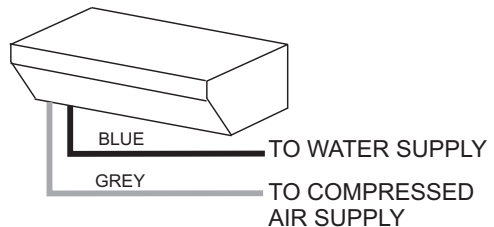

Figure 2 - Water & Air Connections
3. Locate the 1/4" grey air supply line and the blue water supply line exiting from beneath the ADU-07 console. Connect the grey air supply line to a clean regulated 60-90 PSI compressed air supply. Connect the blue water supply line to a clean regulated water source such as the tap water supply or a remote self-contained water system. (Fig. 2).